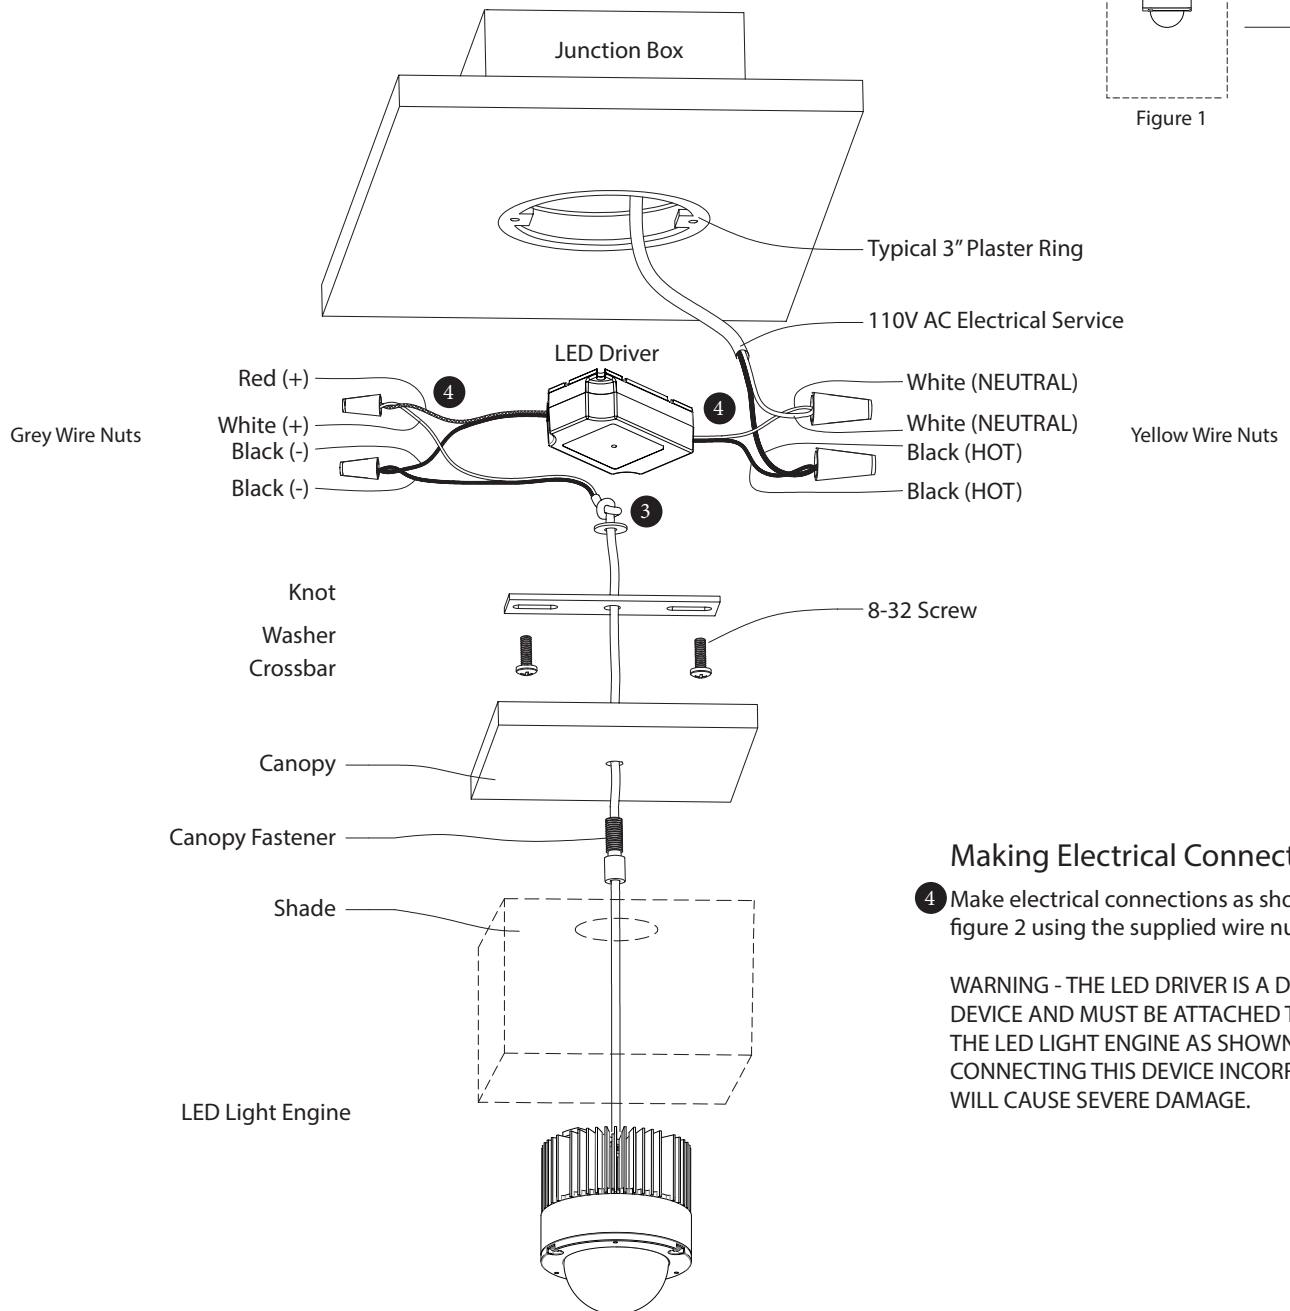

Figure 2
- 1 Measure the desired height (H) that you want the fixture to hang below the ceiling.
- 2 Thread the cable through the shade, canopy fastener, canopy, crossbar, and washer. (See Figure 2)
- 4 Make electrical connections as shown in figure 2 using the supplied wire nuts.